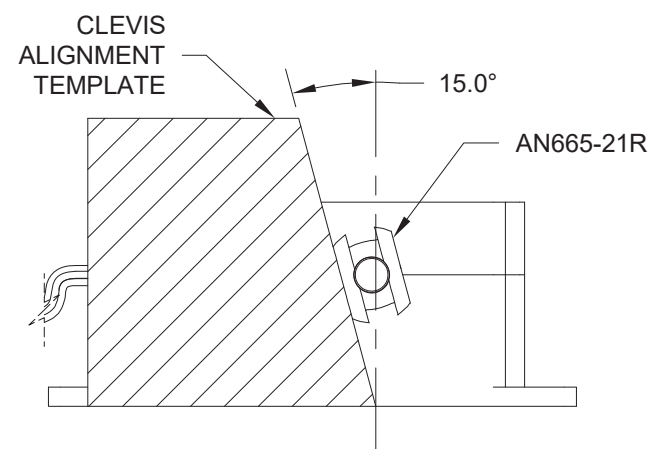

FIGURE 1: CLEVIS ALIGNMENT TEMPLATE
Step 1: Fabricate the Clevis Rod End Alignment Template shown in Figure 1 below from any thin, stiff material such as cardstock.
Using the Clevis Alignment Template shown in Figure 1, check that the angle of misalignment between the clevis and the final installed position of the clevis is less than 15°. If the clevis rotates past the ideal position or has more than 15° of misalignment before reaching the correct final position, the bushing will need to be modified using the instructions in Step 3.